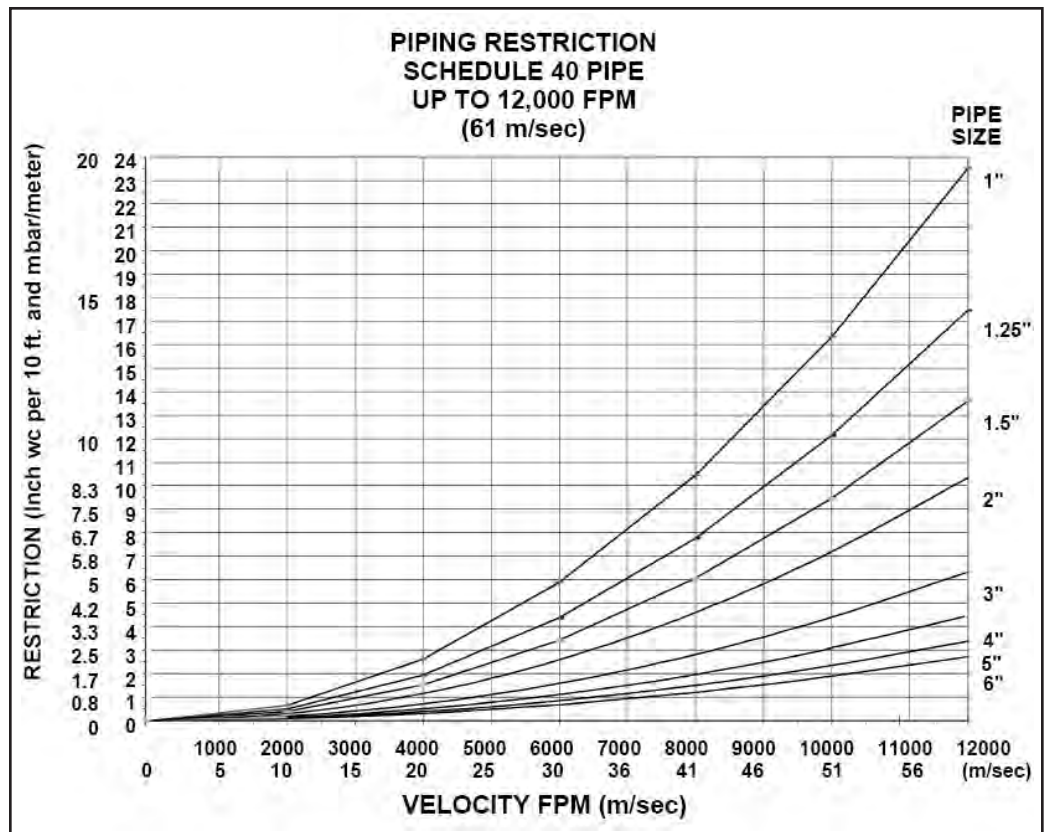

Figure A-3: Restriction Vs. Velocity for pipe diameters up to 6 inches.
5. Determine pressure loss PL per 10 ft or 1 meter of pipe for each velocity and pipe size from "Figure A-3: Restriction Vs. Velocity for pipe diameters up to 6 inches."